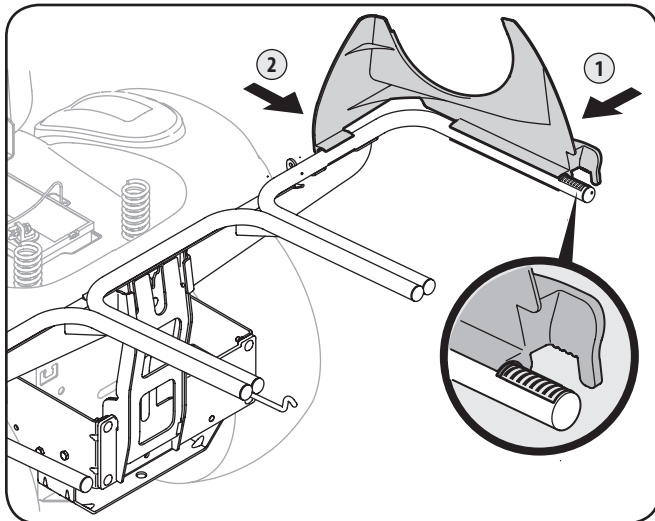

Figure 4-8
1. Snap the plastic upper chute support in place by first clipping the side portion onto the bagger support rail (1) with the edge of the snap feature aligned with the red line, as seen in the inset of Fig. 4-8.
2. Snap the front side of the chute support to the rail (2), as shown in Fig. 4-8.